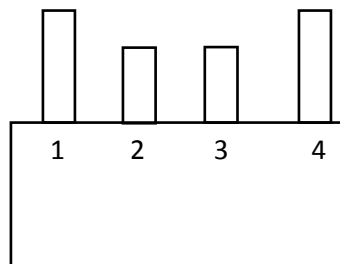

Figure 5: USB terminal
- (b) *Figure 5* shows the internal view of a thumb drive which consists of 4 terminals. RE was applied during the design of this product. Name all the 4 terminals in the diagram and examine the difference in length of the terminals.